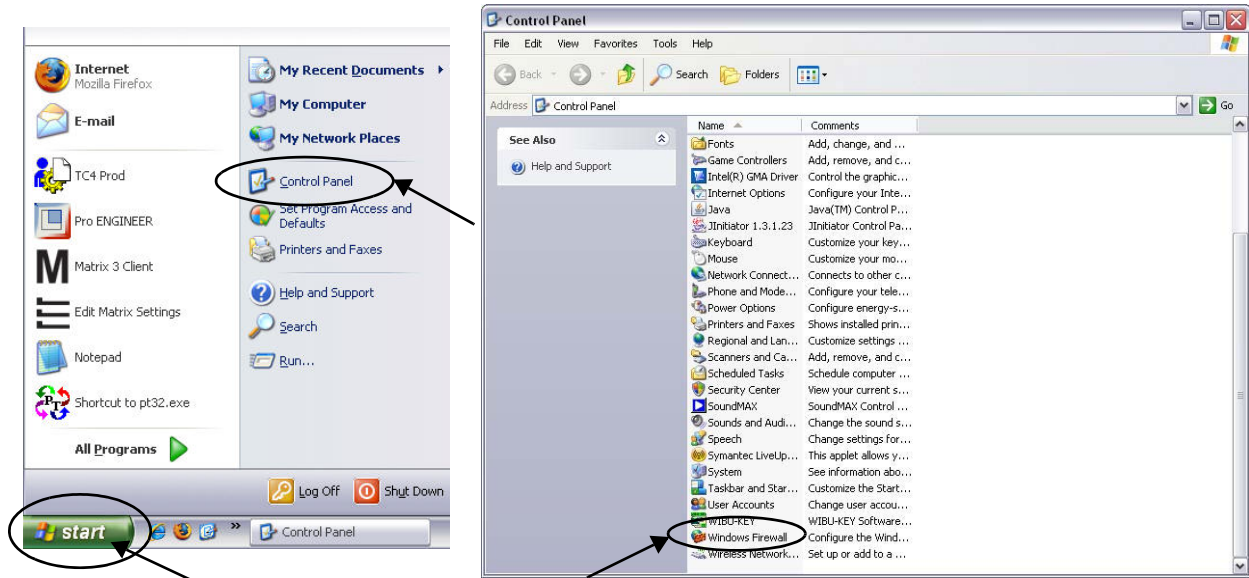

FIG. 30
1. To launch editor, click on Start/All Programs/Windows Firewall (FIG. 30).